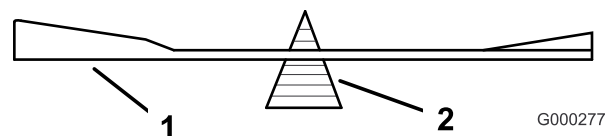
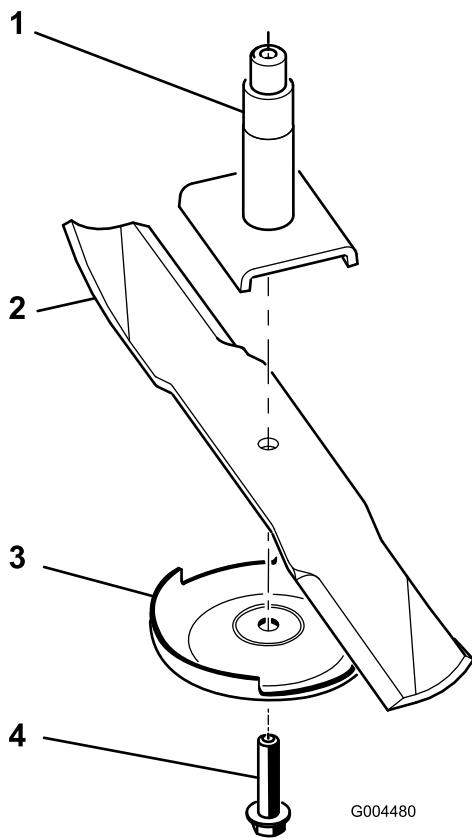

Figure 68
Figure 69
2. Remove the blade bolt, anti-scalp plate, and blade from the spindle shaft (Figure 69).
2. Check the balance of the blade by putting it on a blade balancer (Figure 68). If the blade stays in a horizontal position, the blade is balanced and can be used. If the blade is not balanced, file some metal off the end of the sail area only (Figure 69). Repeat this procedure until the blade is balanced.
1. Install the blade onto the spindle shaft (Figure 69).
2. Install the anti-scalp plate and blade bolt (Figure 69).